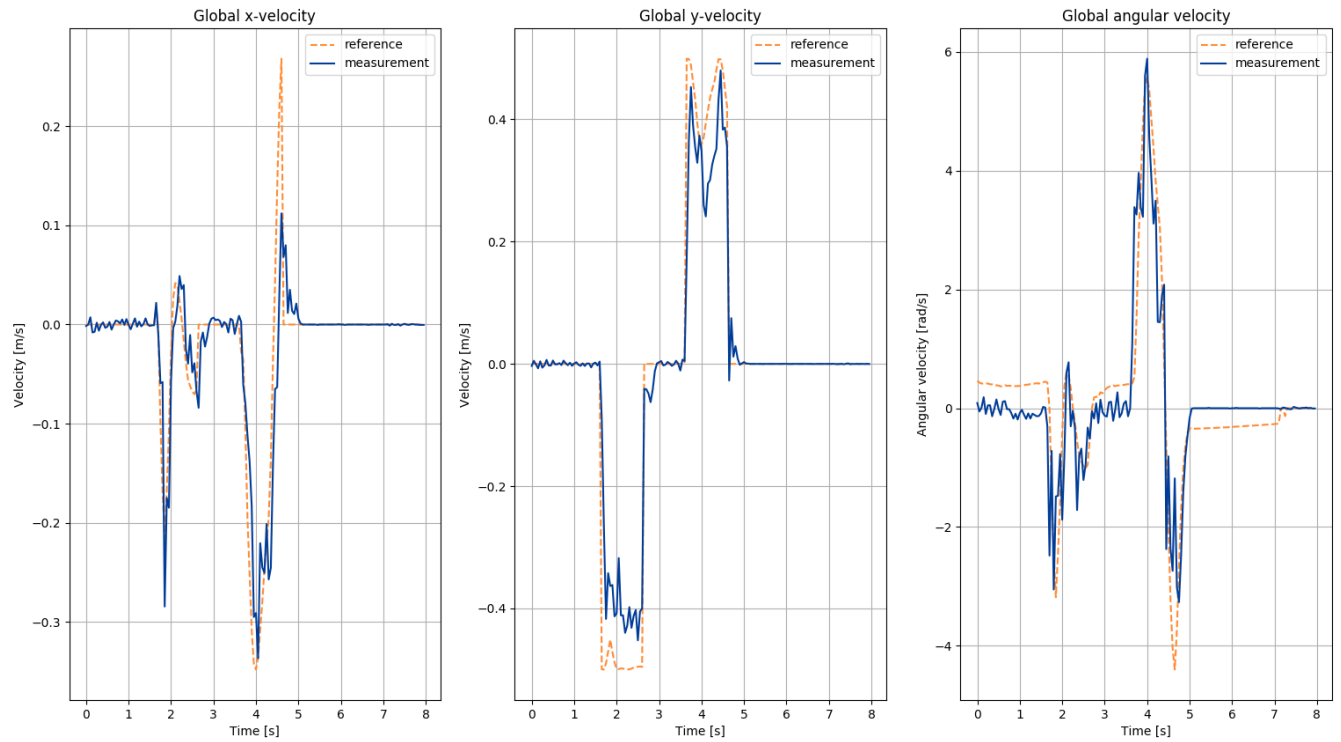

Figure 3: Global velocities of the robot as calculated from the wheels frame.
Using equations (1) and (2), the global velocities of the robot can be calculated from measured wheel data. This is shown in figure 3. The robot is given a velocity command of 0.5 m/s in the y-direction. This can be seen in the graph and the robot seems to reach this velocity very well. However, in the x-velocity graph can be seen that the robot reaches velocities up to 0.3 m/s in this direction while it did not receive the command to do this.